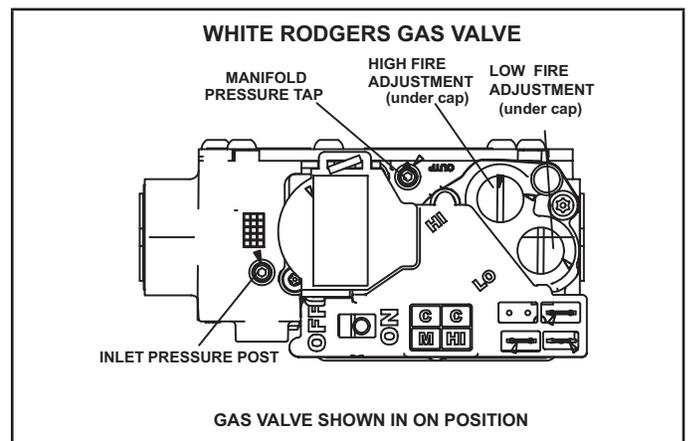

FIGURE 63
Gas Valve Operation (FIGURE 63)
- 6 - Move gas valve switch to **OFF**. See FIGURE 63.
- 8 - Move gas valve switch to **ON**. See FIGURE 63
An inlet post located on the gas valve provides access to the supply pressure. See FIGURE 63. Back out the 3/32 hex screw one turn, connect a piece of 5/16 tubing and connect to a manometer to measure supply pressure. See TABLE 16 for supply line pressure.
A manifold pressure post located on the gas valve provides access to the manifold pressure. See FIGURE 63. Back out the 3/32 hex screw one turn, connect a piece of 5/16 tubing and connect to a manometer to measure manifold pressure.
- 5 - If necessary, make adjustments. FIGURE 63 shows location of high fire and low fire adjustment screws.